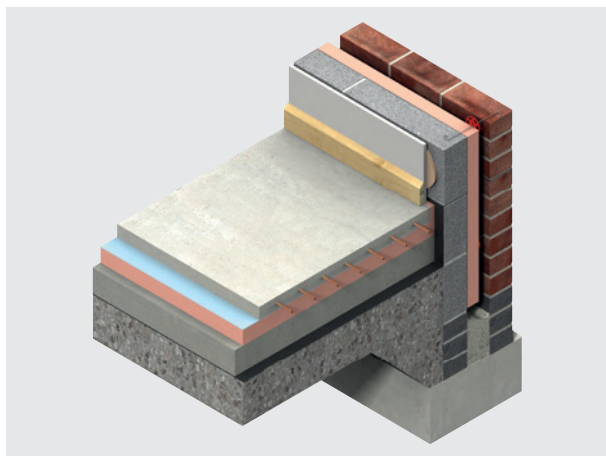
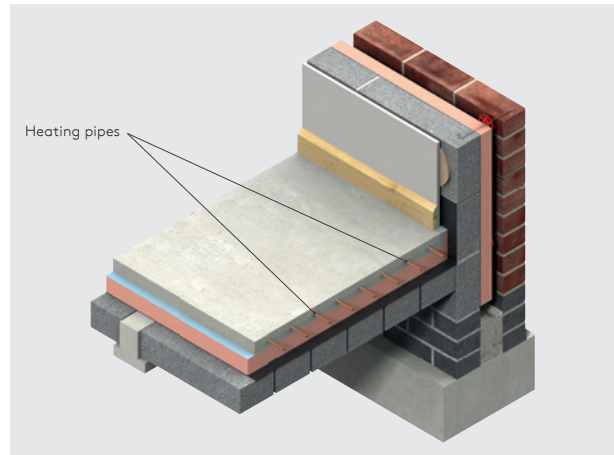

Figure 9: Intermittent Heating Applications - Below the Floor Screed
Figure 10: Intermittent Heating Applications - Beam and Block Floor
- In order to minimise cold bridging at the edge of the floor, the distance between the top surface of the floor insulation or perimeter insulation upstand, and the bottom of the wall insulation must be a minimum of 150 / 225\* mm (see Figures 1 & 2) for a concrete floor and 200 mm for a suspended timber floor (see Figure 9). The further down the wall insulation extends past the floor insulation, the better the thermal performance of the junction between the wall and the floor.
For intermittent heating applications, where a fast response time is required, it is beneficial to have less thermal mass available to take up heat from the system and so placing the insulation layer below the screed but above the concrete slab (Figure 9) or beam and block floor (Figure 10) is the best solution.